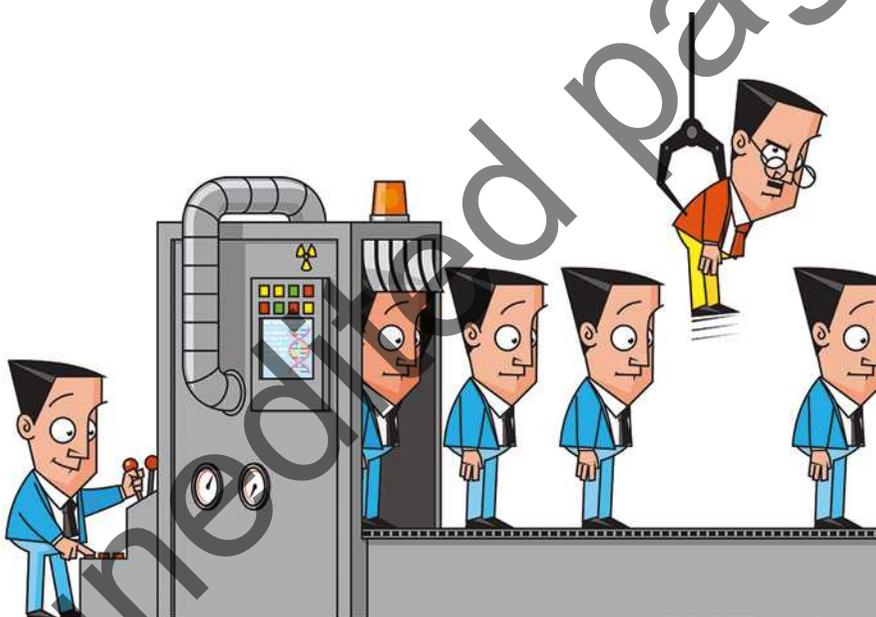

FIGURE 1.1.3 Replication increases the reliability of your investigation. It ensures that if anyone repeats the investigation they will obtain similar data.
- ensuring there are enough trials conducted for each value of the independent variable. Typically, you should conduct at least three trials repeating the experiment, then average the three measurements. This reduces random errors and allows systematic errors to be identified. If a reading differs too much from the rest (known as an outlier), discard it before averaging (Figure 1.1.3).